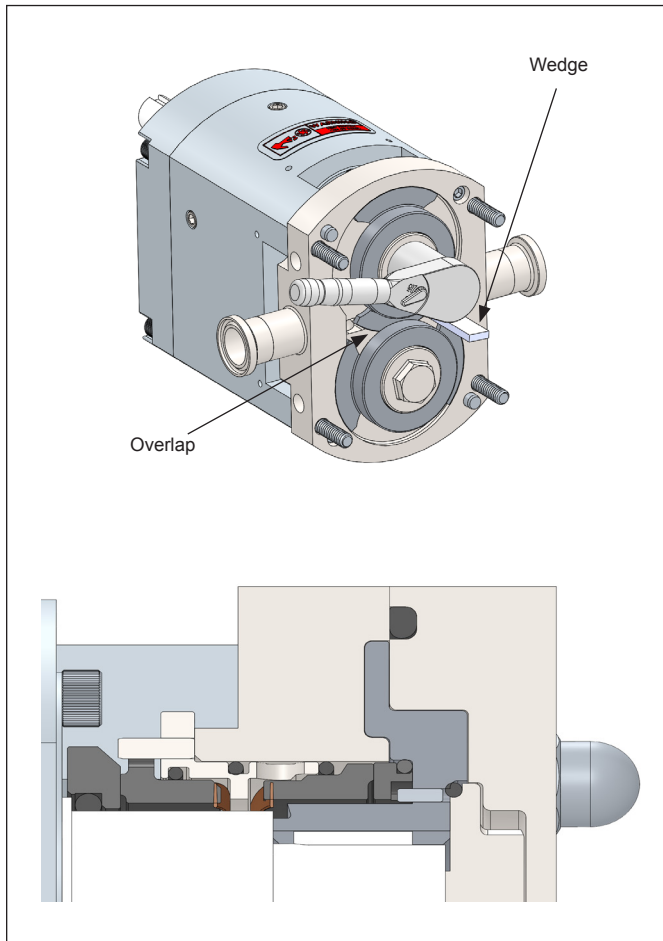

Figure 33. Rotor Assembly
7. Thread the nut onto the shaft and tighten it down using the appropriate wrench and a non-metallic wedge to hold the rotor in place (*Figure 33*). Reference *page 34* for rotor nut torque values. Orientate the rotors as seen in *Figure 33* and Always tighten the first rotor positioned under the overlap of the opposing rotor. Repeat with the second rotor in the same orientation.